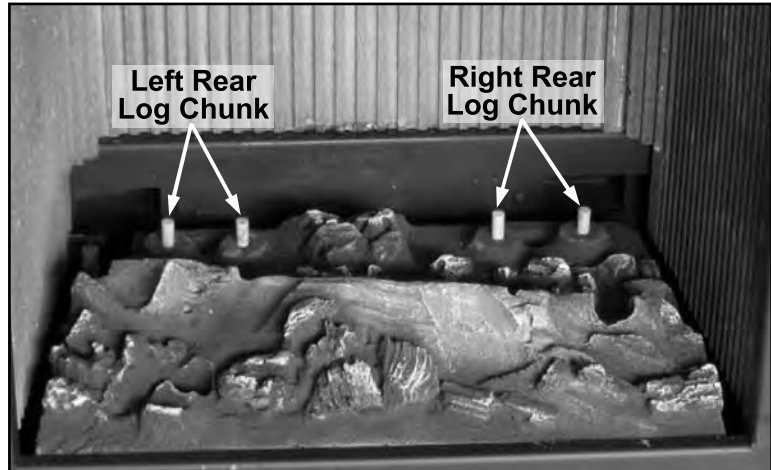

Figure 53: Log Placement of Rear Log Chunks.
2. Place the Left Rear Log Chunk on the two (2) left rear pins and the Right Rear Log Chunk on the two (2) right rear pins (refer to Figures 53 and 54).